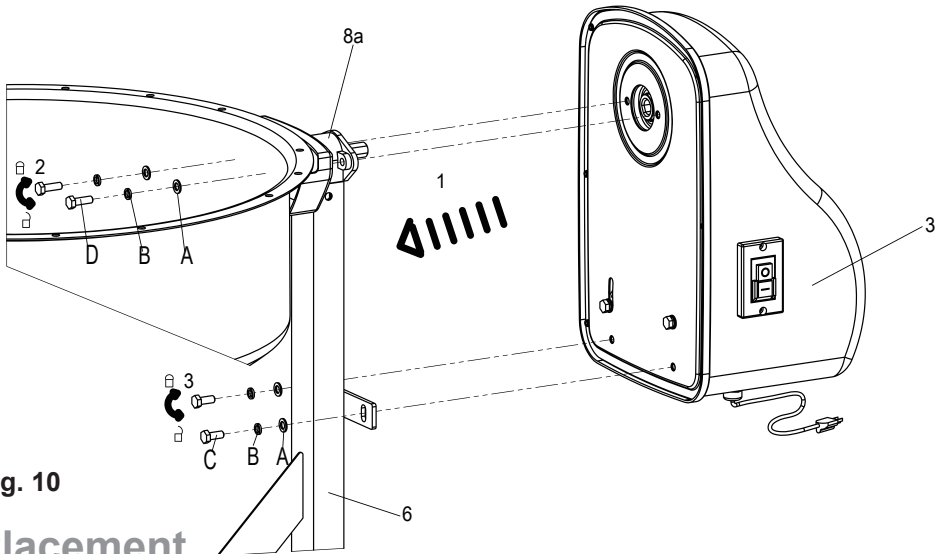

Fig. 10
1. Align and assemble the motor unit onto the drum arm (8) / stand (6) (Fig. 10).
2. Secure the connection with bolts (C, D), spring washers (B) and washers (A).